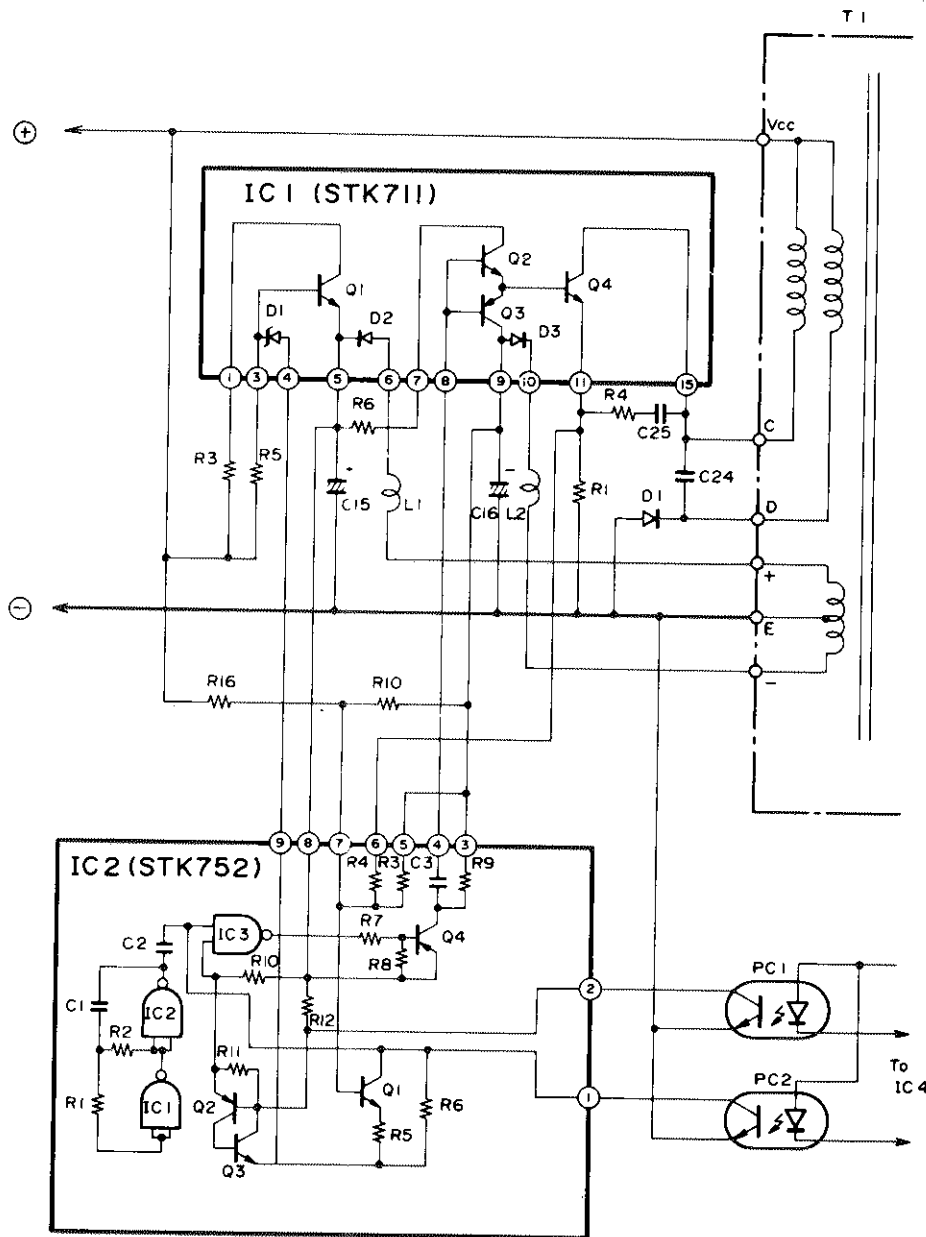

FIGURE 2-5. OSCILLATOR / PULSE DRIVER CIRCUIT
2.2.4 Oscillator/Pulse Driver (Figures 2-5 through 2-8)